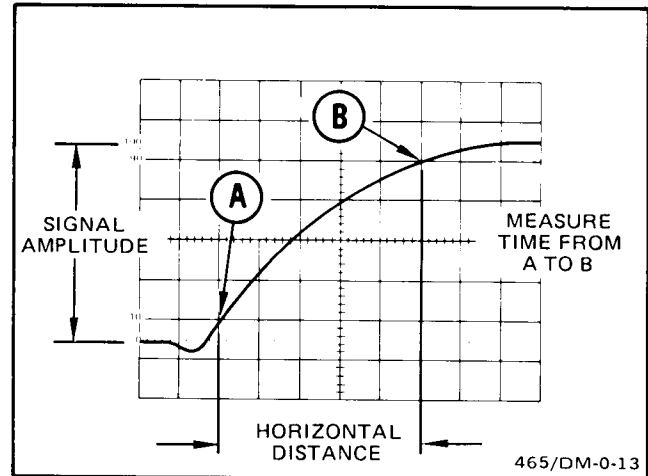

Figure 38. Rise time.
6. Horizontally position the display so the 10% point on the waveform intersects the second vertical graticule line (see Figure 38).
EXAMPLE: The horizontal distance between the 10% and 90% points is 5 divisions (see Figure 38), and the TIME/DIV switch is set to 1 μs . A magnification factor of 1 is used.
The rise time measurement uses the same method as time duration, except that the measurement is made between the 10% and 90% points on the leading edge of the waveform (see Figure 38). Fall time is measured between the 90% and 10% points on the trailing edge of the waveform.